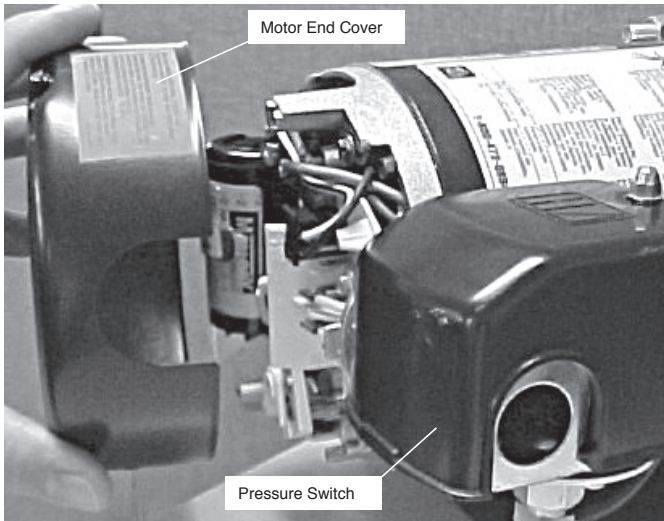

Figure 4 – Removing Motor End Cover
1. Connect the ground wire first as shown in Figure 4. The ground wire must be a solid copper wire at least as large as the power supply wires.